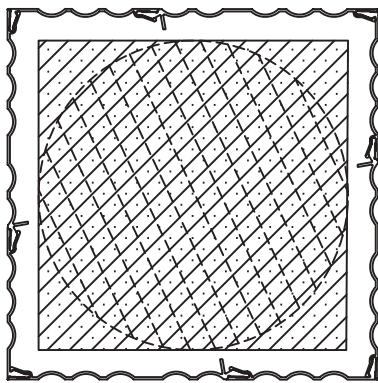

Fig. 1
Step 2. Snap all staves together around the existing post as shown (Fig. 1).